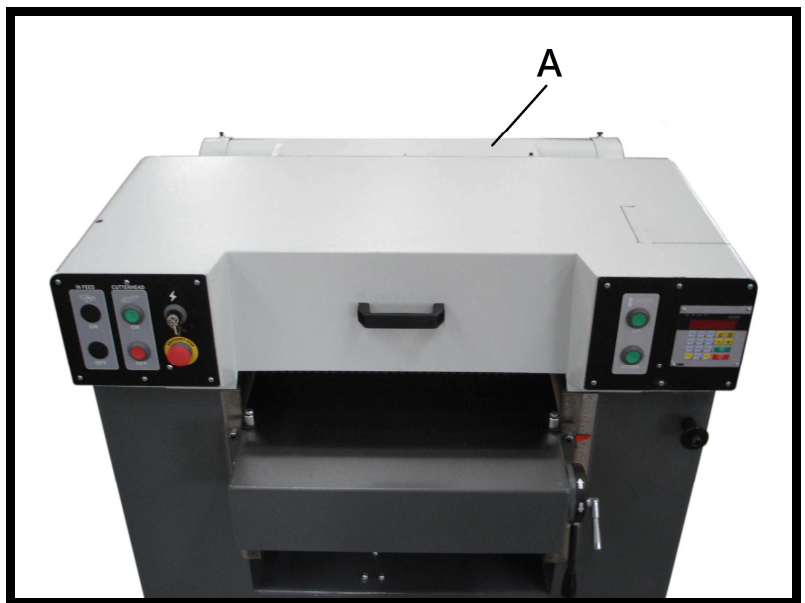

Fig. 3
3. Geometrical dimension of each connection outlet hole: 152.4 mm (6") A Fig. 3.